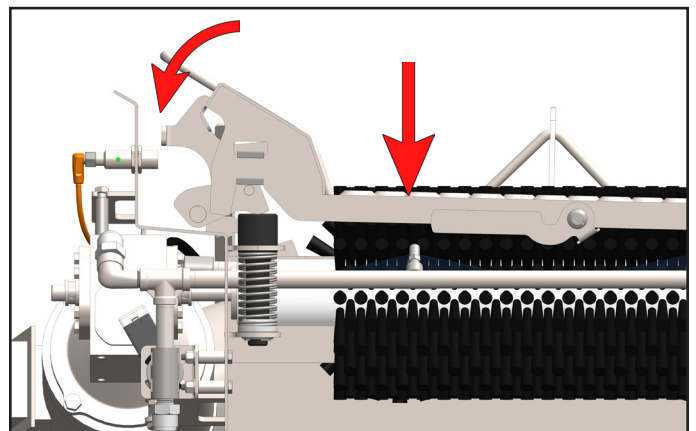

Fig. 9.2: Grate triggering Prox Switch, shown on BLX-1000S
2. The walkway grate will depress, activating a proximity sensor which starts the brush rotation and solution spray [Figure 9.2].